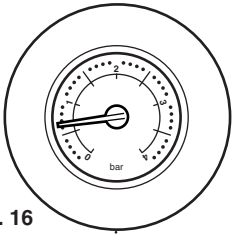

Fig. 16
2. With the system cold and the boiler not operating the pressure should be between 0.5 and 1.0 bar. During operation the pressure should not exceed 2.5 bar, and will normally be between 1.0 and 2.0 (Figs. 16 & 17).